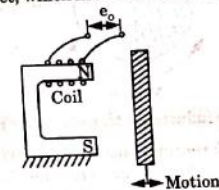

Fig. 5.13.2. Electromagnetic transducer.
- Fig. 5.13.2 shows an electromagnetic transducer, in which a voltage is induced in the coil when the magnetic flux about it is varied due to the motion of the object, which has to be done for a ferromagnetic material.